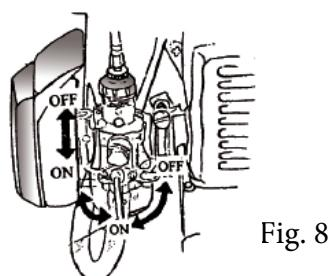

Fig. 8
- a) Turn on the fuel switch, see Fig.8